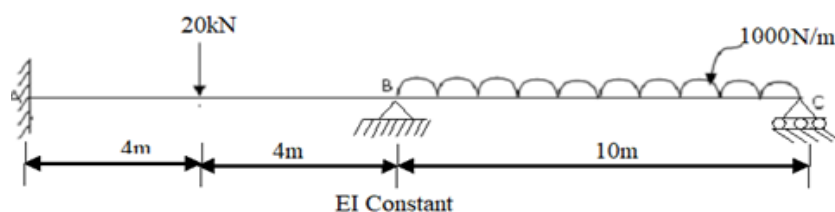

Figure 1
9. Obtain desirable locations of concordant cable profile for the continuous beam loaded as shown in Figure 1. Take prestressing force as 250kN.